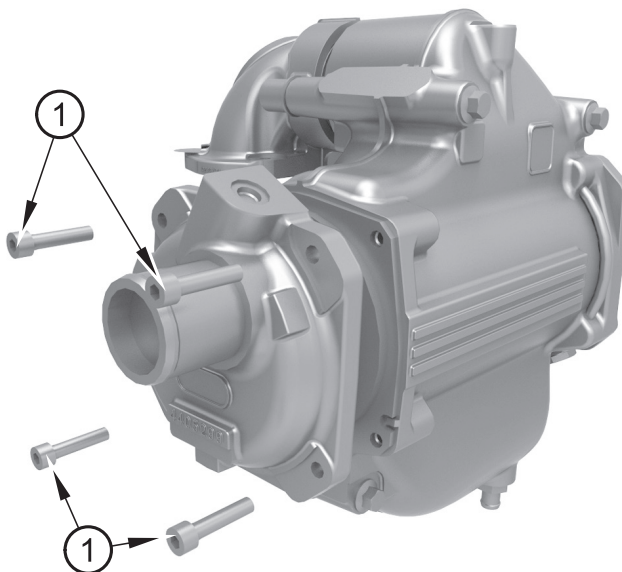

Figure 24
6. Remove the endcap by undoing the bolts (figure 24 item 1).